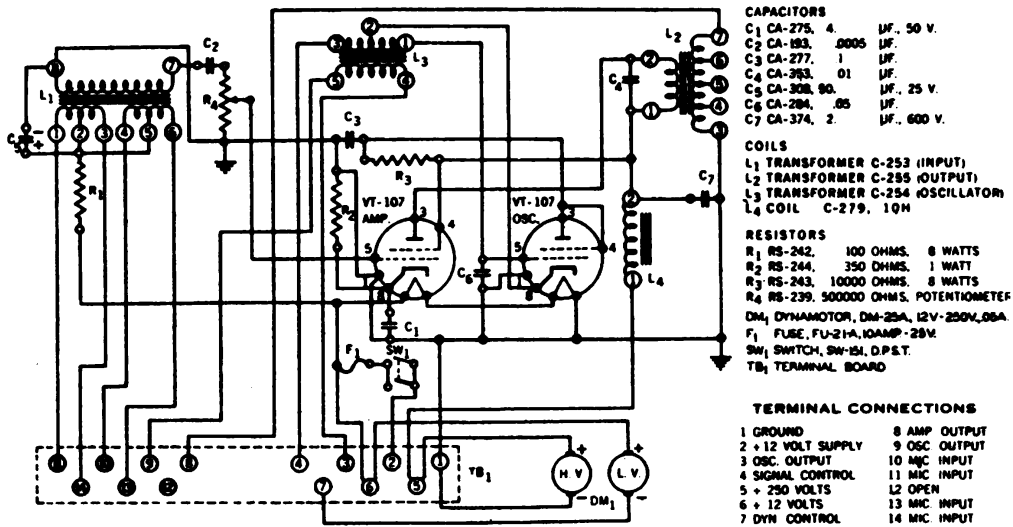

Figure 7. - Circuit Diagram for Interphone Amplifier BC-367
a. Interphone Amplifier BC-367 - (See Fig. 7 For Circuit Diagram)
(1) Amplifier Circuit - The amplifier is of the transformer-coupled type and provides a maximum output of over 2-watts. The rising fidelity characteristic (attenuation at lower frequencies) from 100 to 2,500 cycles, tends to compensate for the poor high-frequency response of Microphone T-30-A and to prevent excessive noise pick-up. The input transformer consists of a two-winding primary with each winding center tapped, and a single-wound secondary. The audio-frequency voltage, after being stepped up by the input transformer, is applied through a potentiometer volume control to the grid of